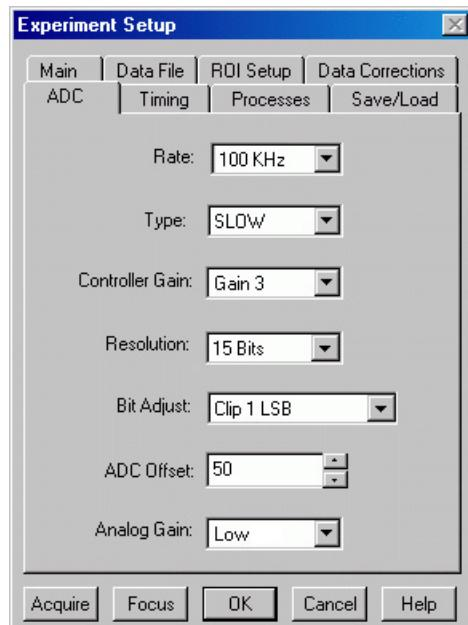

Figure 34. Generic ADC tab page
5. On the **ADC** tab page (Figure 34), set the parameters as they apply to your particular system. Parameters that might be listed, depending on the controller type, include: